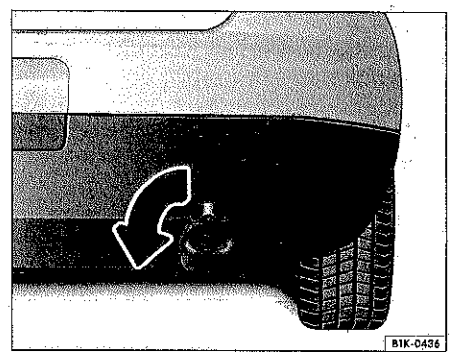

Fig. 53 Rear bumper, right side: mounting the towing eye.
- Screw the towing eye as far as it will go into the threaded hole. Use the grip of the screwdriver to tighten the towing eye ⇒ fig. 53.
- Screw the towing eye into the threaded hole as far as it will go, in the direction shown ⇒ fig. 53 (arrow). Use the lug wrench or other suitable tool to tighten the towing eye ⇒ ⓘ.